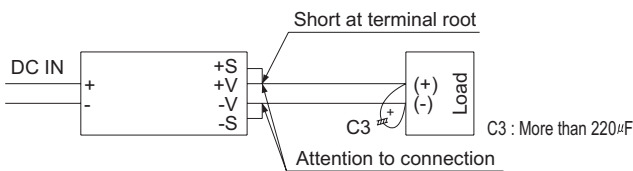

Fig.2.3 Connection when not using remote sensing
- When the load is light(e.g. the load factor is about 5%), the output voltage may be unstable. In this case, install a capacitor(C3) whether the remote sensing is used or not(Refer to Fig.2.3 and 2.4).